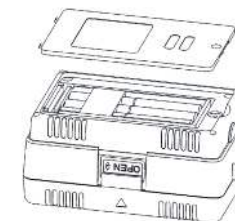

Figure 4
11. Battery Replacement (See Figure 4)